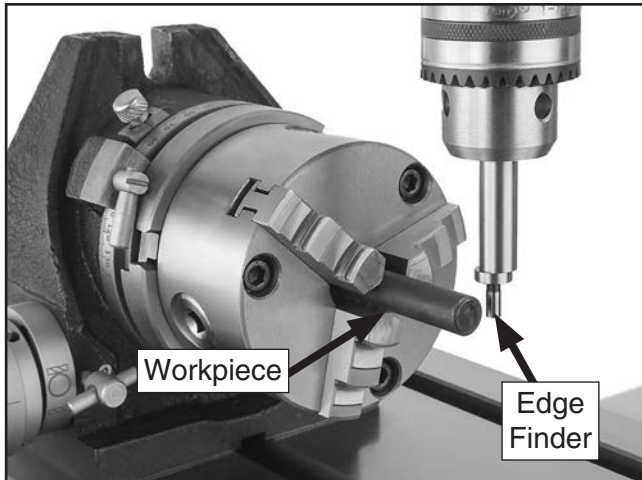

Figure 20. Example of using an edge finder to align workpiece.
1. Mount an edge finder in mill spindle (see **Figure 20**).
2. Accurately measure workpiece diameter, then mount it in chuck, as shown in **Figure 20**.